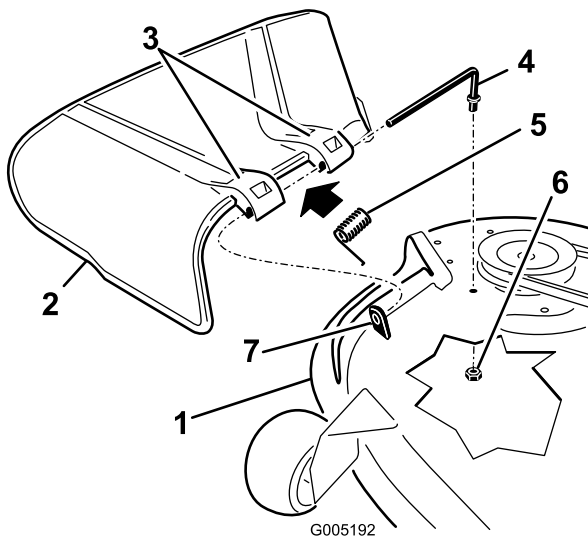

Figure 50
1. Locate items shown in Figure 50.
2. Remove the nut (3/8 inch) from the rod under the mower (Figure 50).
3. Slide the rod out of the short stand-off, spring, and grass deflector (Figure 50). Remove the damaged or worn grass deflector.
4. Replace the grass deflector (Figure 50).
6. Place the spring on the rod, with end wires down, and between the grass deflector brackets. Slide rod through second grass deflector bracket (Figure 50).
7. Insert rod at front of grass deflector into short stand-off on deck. Secure rear end of rod into the mower with a nut (3/8 inch) (Figure 50).